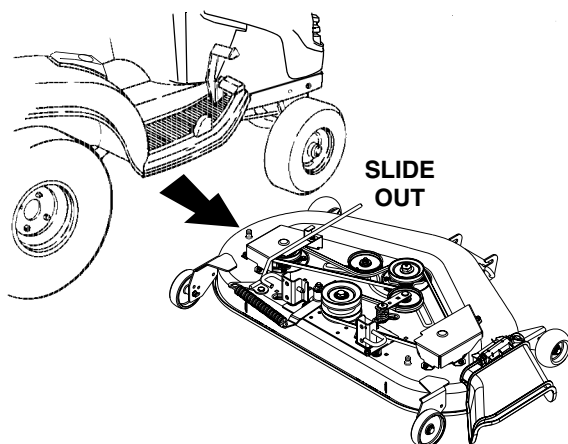

Figure 42
10. With the tractor implement lift handle raised to its highest setting, slide the deck to the right and out from under the tractor (See Figure 42).
2. Refer to Figure 42 and position the deck on the right side of the tractor with the front of the deck facing toward the front of the tractor. Raise the tractor implement lift handle to its highest setting and slide the deck under the tractor.